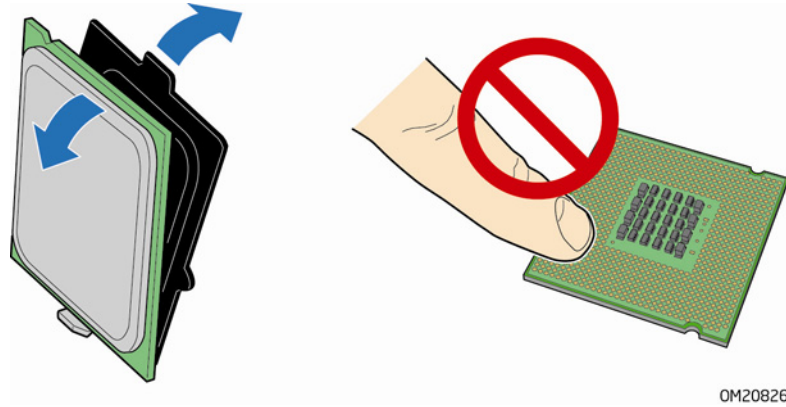

Figure 9. Remove the Processor from the Protective Processor Cover
5. Remove the processor from the protective processor cover. Hold the processor only at the edges, being careful not to touch the bottom of the processor (see Figure 9). Do not discard the protective processor cover. Always replace the processor cover if the processor is removed from the socket.